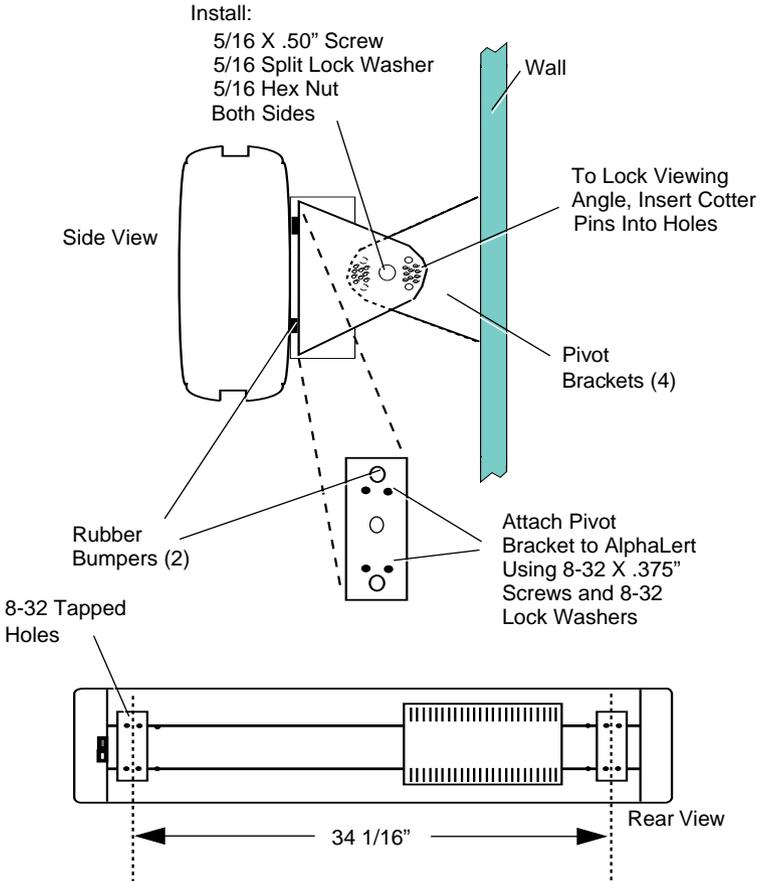

Figure 3-4. Large AlphaLert Sign Wall Mounting Installation Diagram
1. Place two rubber bumpers on each of the two pivot brackets shown in Figure 3-4.
3. See **Large AlphaLert Sign Installation, Note** and attach the remaining two pivot brackets to the wall as shown in Figure 3-4.
4. Mount the sign to a wall as shown in Figure 3-4.